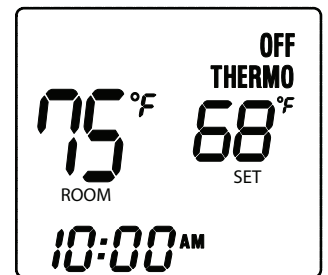

Fig. 6 Thermo Mode
Step 2: Press the MODE button a second time to put the system in THERMO mode (Fig. 6).